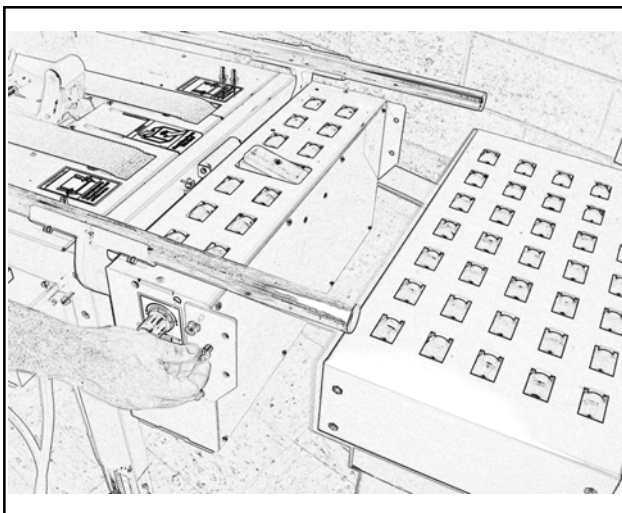

Figure 2-2—Infeed Conveyor
3. To assemble the infeed conveyor, refer to Figure 2-2 and locate the three bolt holes on the infeed end of the case sealer frame and the two bolt holes on the infeed conveyor.